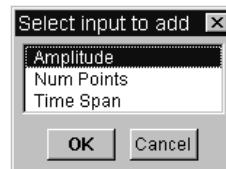

Figure 37 Example: Adding Input Terminals
- 1 Connect the input and output pins as shown in Figure 37.
- 1 Click on the object menu or press Ctrl+A with the mouse pointer in the “terminal area” at the left side of the Noise Generator. The dialog box appears for you to add an input, as shown in Figure 37.